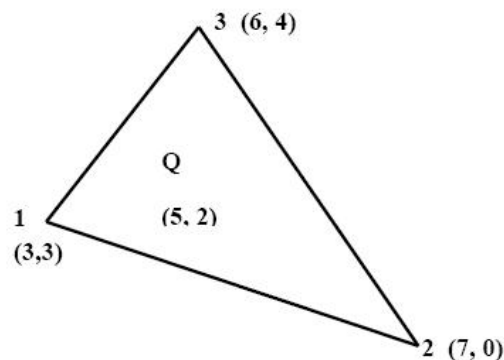

Figure 4
10. A pump pumping fluid at  $Q=6500 \text{ m}^3/\text{hr}$  is located at coordinates (5, 2) in the element as shown in Figure 4. Determine the amount of  $Q$  allotted to each node. All nodal coordinates are in mm. Assume unit thickness of  $t=1 \text{ mm}$ .